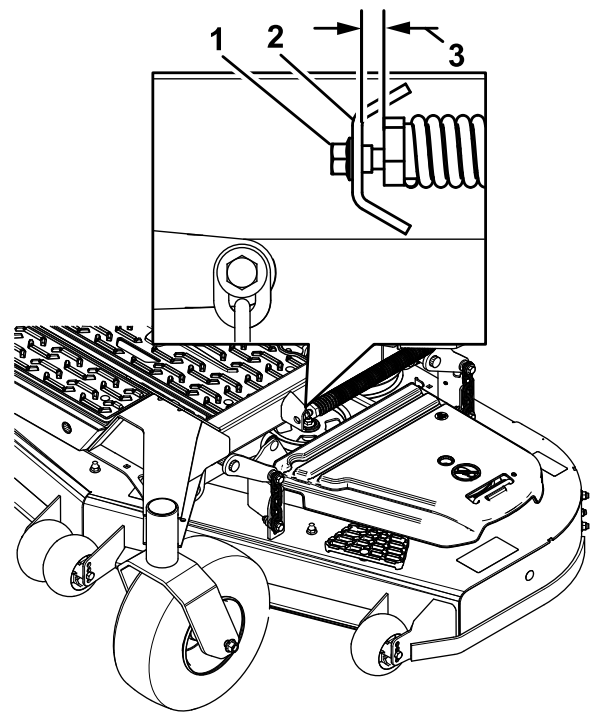

Figure 84
10. Slowly loosen the adjusting screw on the lift-assist spring until you can remove the screw (Figure 84).